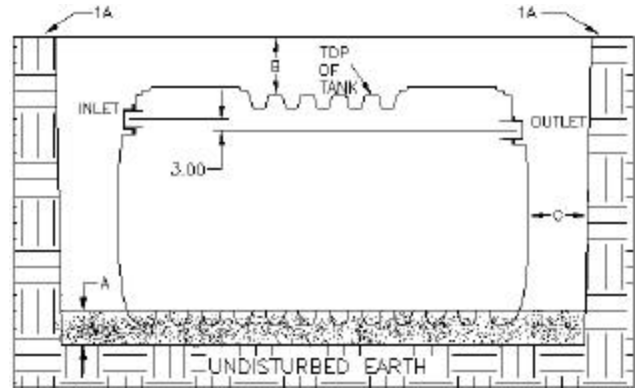

Figure 1: Excavation
1. Excavation (Figure 1)
- c.) Excavate and provide a well-compacted support layer of sand / gravel mixture so that dim. (A) is a min. of 6" for soil terrain and 12" for rock terrain.
- d.) Allow dim. (B) to be a min. of 8" and a max. of 36".
- e.) Allow dim. (C) to be a min. of 18" and a max. of 24".